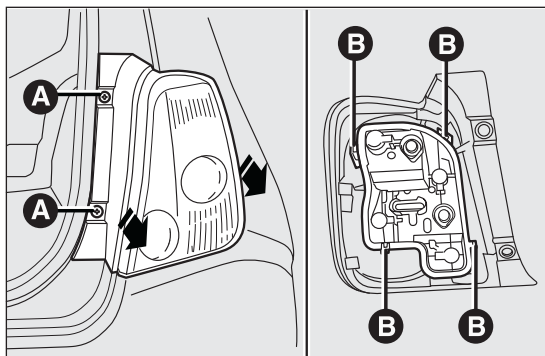

fig. 117
- ☐ unscrew the two fastening screws A fig. 117 and extract the light cluster axially without rotating it;
- ☐ remove the bulb holder from its housing releasing it from the locking tabs B fig. 117;